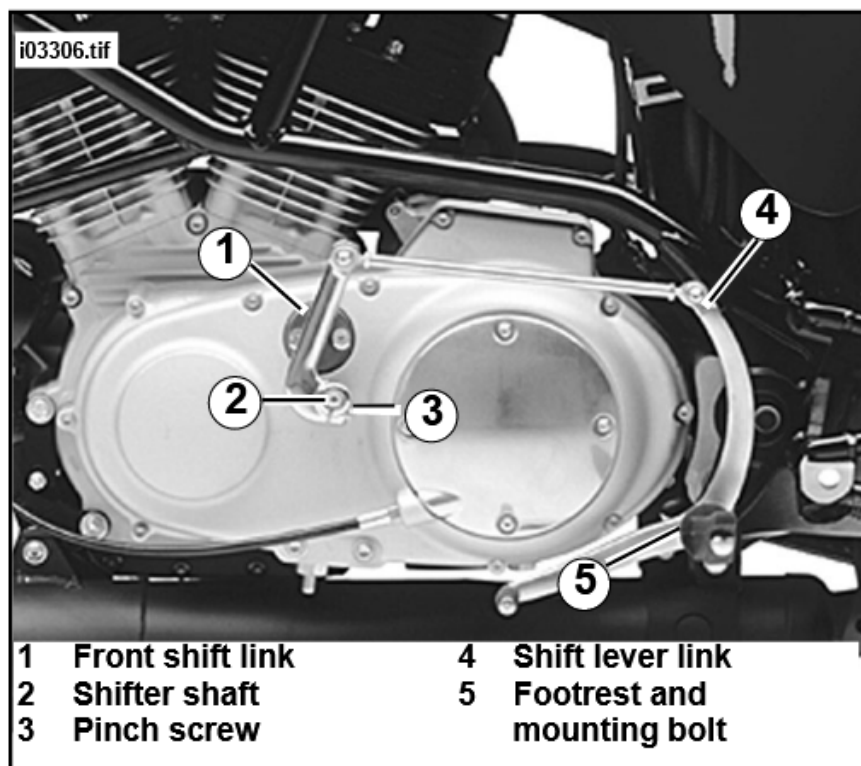
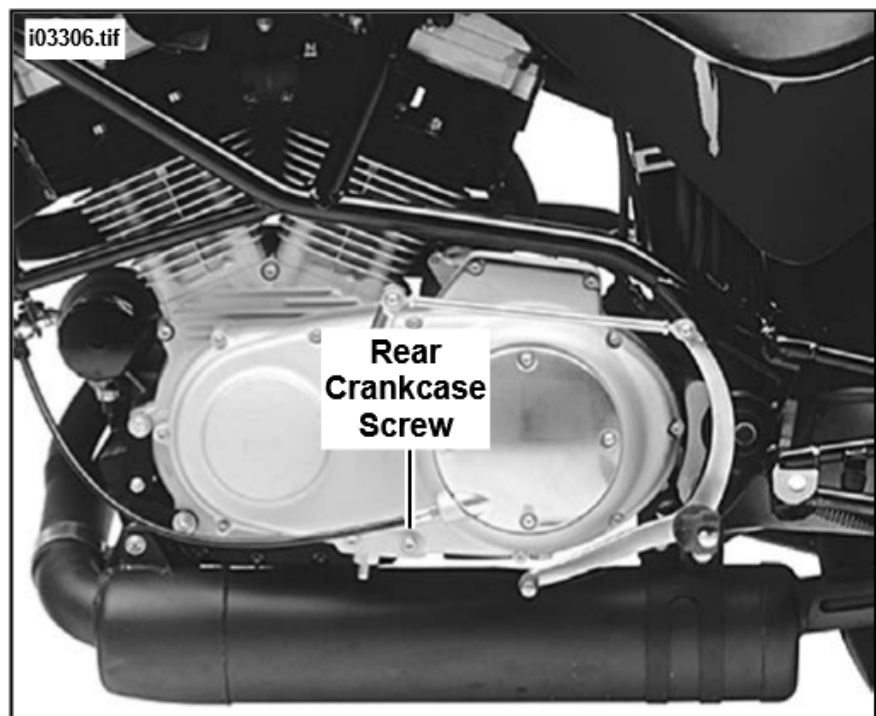

Figure 1. Remove Shifting Linkage (M2 Cyclone Shown)
Figure 2. Remove Rear Crankcase Screw (M2 Cyclone Shown)
1. See Figure 1. Remove the pinch screw (3) securing front shift link (1) to the shifter shaft (2).
3. Slide front shift link (1) off of shifter shaft (2) and remove entire linkage as an assembly. Discard linkage assembly.
6. See Figure 2. Remove rear screw from lower crankcase housing. Discard screw but save washer.